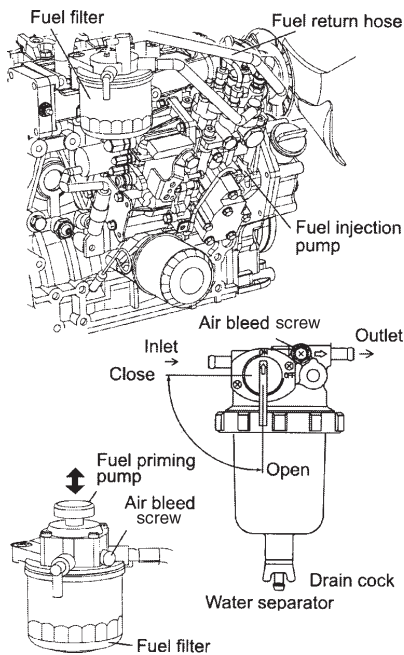

Figure 10: Bleeding Fuel System
2. Loosen bleed screw on top of the fuel filter (Figure 10). Pump hand primer on fuel lift pump until pure fuel (no bubbles) escapes from bleed screw. Tighten bleed screw.